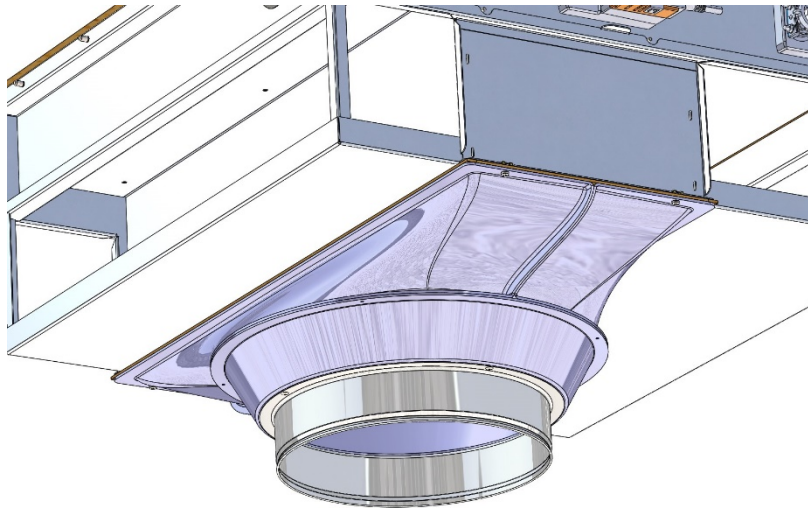

Figure 60 – Plenum box position.
1. For a ducted system we will supply you with a supply duct adaptor which will come pre-fitted to the internal diffuser - *see figure 60.*